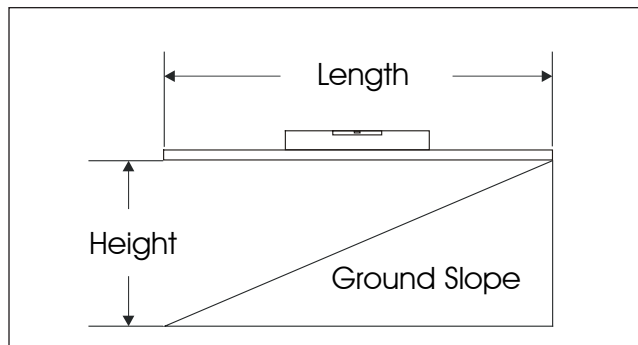

Figure 8.7 – Percent Grade Calculation
2. Holding the downhill end, raise the 2 x 4 until the level indicates that the board is level (refer to Figure 8.7).